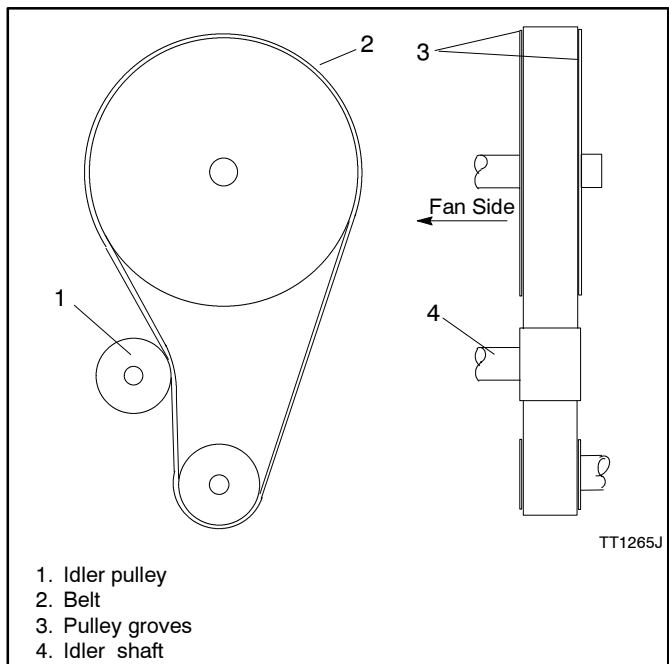

Figure 1-2 Belt Alignment
8. Place the fan belt in the second groove on the fan and engine drive pulleys. See Figure 1-2.
9. Position the idler pulley and hub assembly in the center of the fan belt. See Figure 1-2.